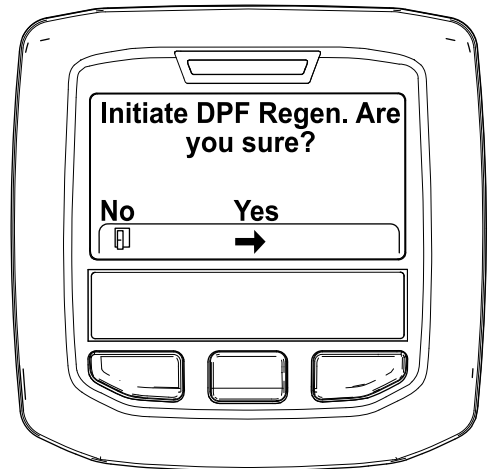

Figure 39
4. When the "Initiate DPF Regen. Are you sure?" message displays, press the center button (Figure 39).